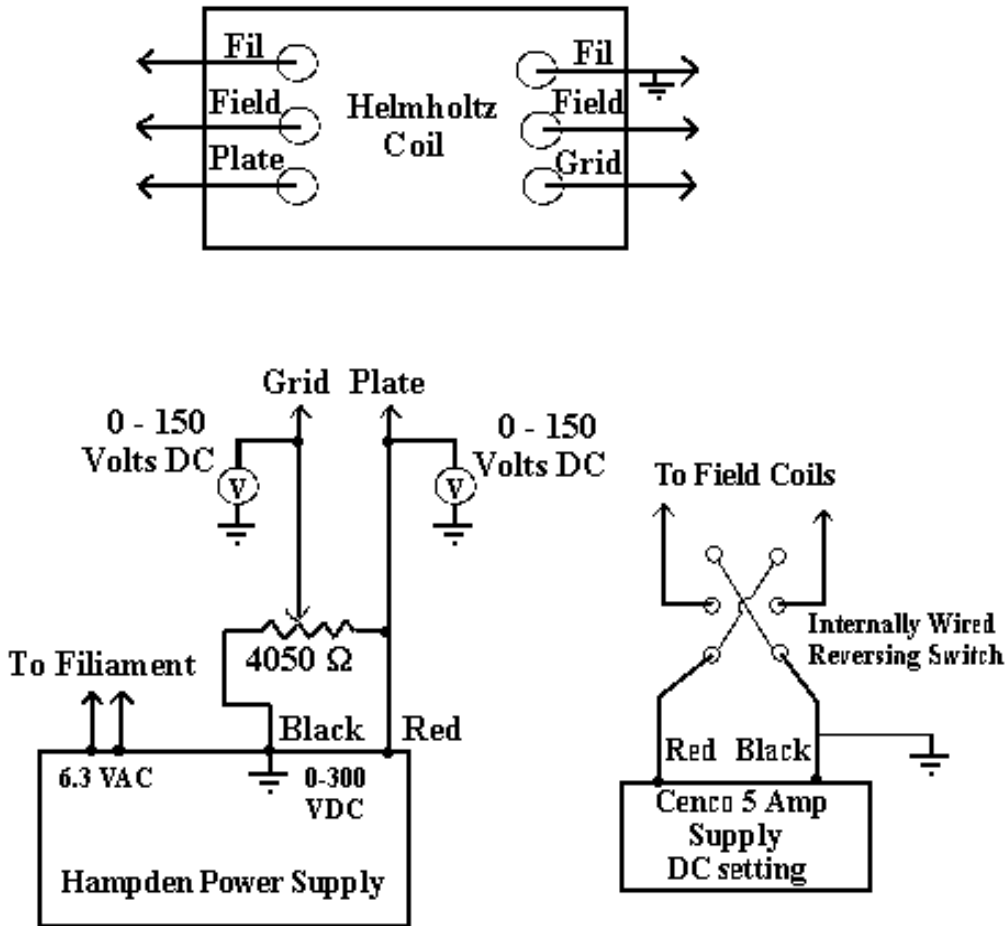

Figure 3: Wiring Diagram, note volt meters between grid/plate and ground.
2. Assemble the circuit shown in Figure 3. Be sure that the lead to the grid is connected to the sliding arm connector of the resistor. This will produce a grid voltage at some fraction of the anode voltage. **Make all grounds common.** Be sure all meters are connected so as to respect their polarities.
7. To obtain your best value of e/m , Plot your data as φ/r^2 versus I^2 . Use the method of least squares to determine the best straight line fit. Force the intercept to be the origin, that is, you want the function to be of the type $y = cx$. The ratio of e/m can be determined from this slope and equation (6). Be sure to record the fitting error.